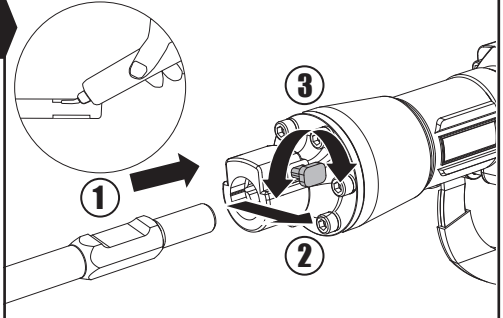

Fig. C1
3. FITTING AND REMOVING THE CHISEL (See Fig. C1,C2)
FITTING THE CHISEL (SEE FIG. C1)